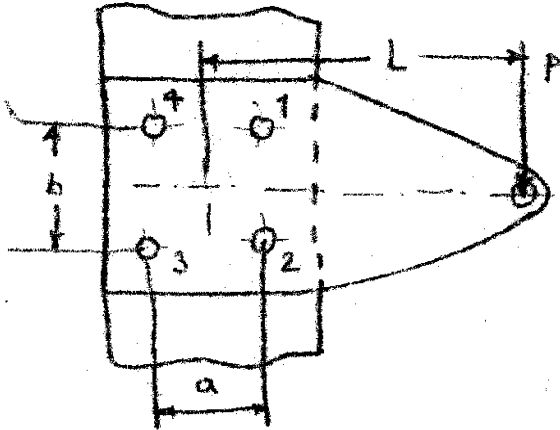

Figure 2
- b) A steel plate subjected to a force of  $P$  kN and fixed to a vertical channel by using four identical bolt as shown in figure 2. Write down the procedure to find out diameter of bolts.